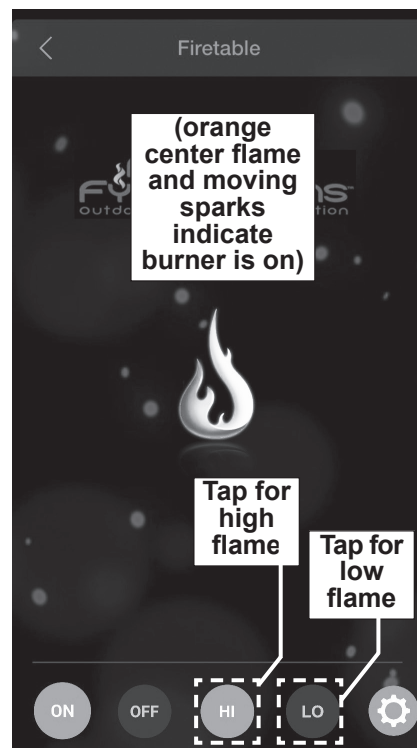

Fig. 39-1 Remote Operation:
1. Locate the **POWER** button on the control panel, and push it (see Fig. 39-1). The light will illuminate indicating the system is on and ready.
2. From within the app, proceed to the Devices screen and select your unit. The remote screen will appear. See Fig. 39-1.
3. Tap the **ON** icon found on the bottom left of your remote screen (see Fig. 39-1).
The flame height can be adjusted via the remote app. Tap the **HI (high)** button to increase the flame height. Tap the **LO (low)** button to decrease the flame height. See Fig. 39-1. (LO setting available after 60 seconds.)
To shut down the burner (system will remain on), tap the **OFF** icon found on the bottom left of your remote screen. The screen will no longer display the orange center flame and moving sparks. See Fig. 39-1. The **AUX CONTROL** button indicator light will also go off.
To shut down the burner and system (total shutdown), or if the remote app is unavailable, push the **POWER** button on the control panel. See Fig. 39-1. The **POWER** and **AUX CONTROL** button indicator lights will go off. (Fully power off when covering or when not in use.)